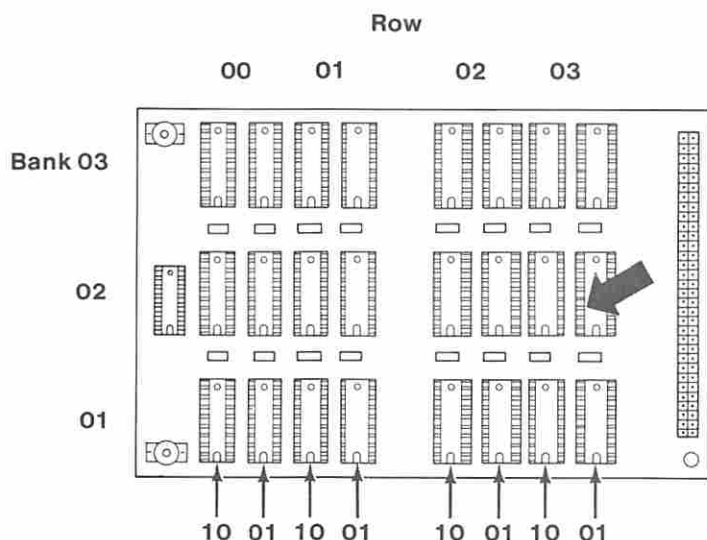

Figure 12. Module Location
- Refer to Figure 12 on page 2400-37 and remove the memory modules from bank 03.
- Refer to Figure 12 on page 2400-37 and remove the modules installed in bank 02.
- Refer to Figure 12 on page 2400-37 and remove the modules installed in bank 01.
For example, error code **020301** corresponds to a failing module identified as being in bank **02** row **03**, in the **right** (01) module position. This is shown by the arrow in Figure 12.